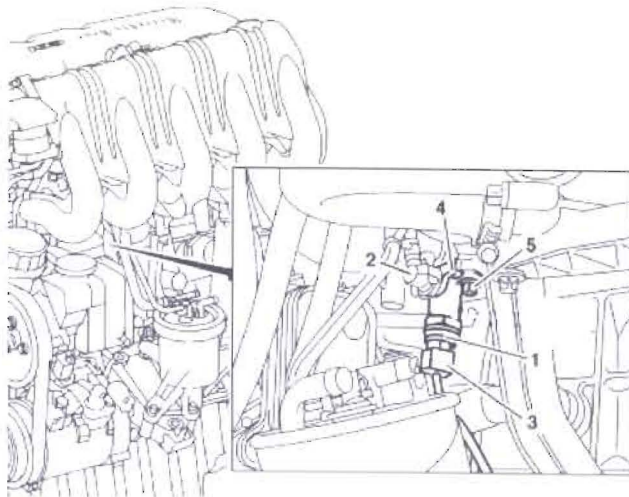

Figure 11
- 23 Remove fuel line connector (2, Figure 11) from fuel pressure sensor (1); refer to WIS: AR47.25-P-1000-01A.